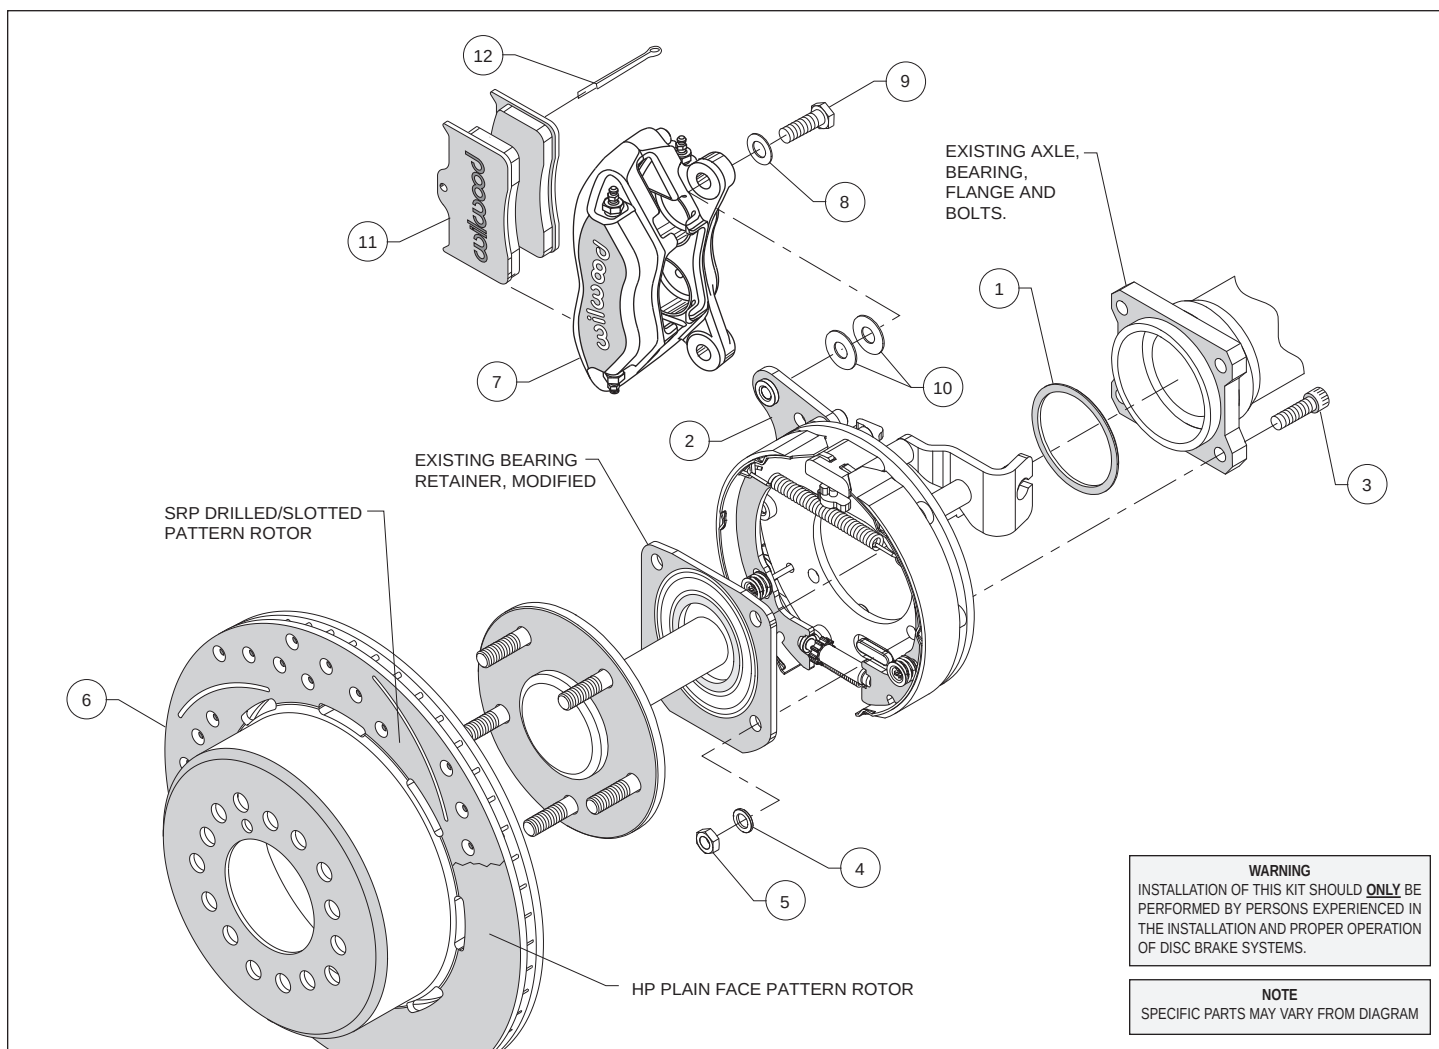
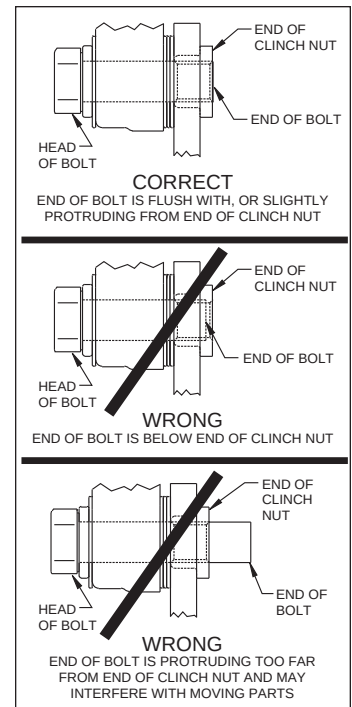

Figure 1. Typical Installation Configuration
Figure 5. Clinch Nut Engagement Diagram
Assembly Instructions (numbers in parenthesis refer to the parts list, and Figure 1 on the preceding pages): **CAUTION:** All mounting bolts must fully engage clinch nuts. Be sure to check that all bolts are either flush or protruding through flanged side of clinch nut after shimming, Figure 5.
- With the bearing retainer in place, slide the caliper mounting bracket assembly (2) onto the axle as shown in Figure 1 and Photo 1. Install axle shim (1) over axle shaft with bearing chamfer facing toward the axle housing, as shown in Photo 2.
- Slide the axle and parking brake assembly into the axle housing ensuring that the backing plate is flush with the axle housing flange and the bearing retainer is flush with the backing plate. Secure OEM bearing retainer using bolts (3), washers (4) and lock nuts (5), as shown in Figure 1. Hex nuts (5) and washers (4) that retain the caliper mounting bracket assembly (2) should be on the wheel side of the bracket, Figure 1. Torque nuts to 40 ft-lbs.
- Align the correct hole pattern in the rotor/hat (6) with the stud pattern on the axle flange and slide into place, Figure 1 and Photo 3. **NOTE:** The rotor/hat must fit flush against the axle flange or excessive rotor run out may result. Install three lug nuts (finger tight) to keep the rotor/hat assembly in place while continuing with the installation. **NOTE:** Some OEM and after market axles come with stud sizes larger than 0.50" diameter. Verify stud size and have a qualified machine shop drill the bolt circle of the hat/rotor to the correct stud size, if necessary.
- NOTE:** Please reference the caution statement at the beginning of the assembly instructions. Mount the caliper (7) onto the caliper mounting bracket (2) using bolts (9) and washers (8), as shown in Figure 1. Initially place two .035" thick shims (10) on each bolt between the caliper and the bracket, Photo 4. Temporarily tighten the mounting bolts and view the rotor (6) through the top opening of the caliper. The rotor should be centered in the caliper, Photo 5. If not, adjust by adding or subtracting shims between the bracket and the caliper. Always use the same amount of shims on each of the two mounting bolts. **NOTE:** The end of each bolt must be flush with or slightly protruding from the head of the clinch nut, as shown in Figure 5. If necessary place spare shims between washer (8) and caliper mounting ear to achieve the proper clinch nut engagement. Once the caliper alignment and clinch nut engagement are correct, remove the bolts one at a time, apply red Loctite® 271 to bolt threads, and torque to 40 ft-lb.